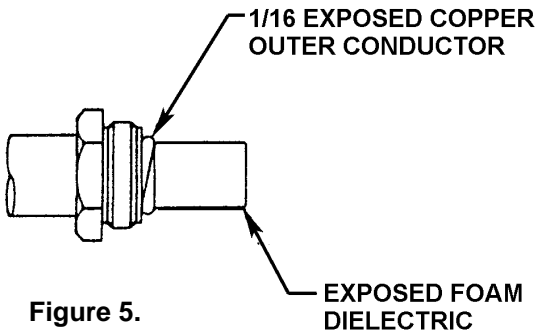

Figure 5.
8. Remove the tape from the backnut, then tighten the backnut one half turn to expose approximately 1/16 inch of outer conductor. See Figure 5.